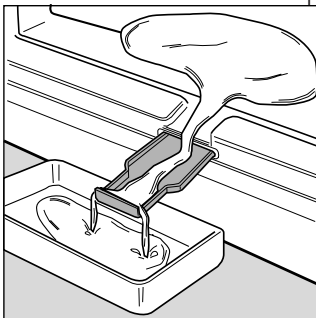

Fig. 2
- The freezer is equipped with a system to drain the water, simply place a container in position as shown in fig.2.